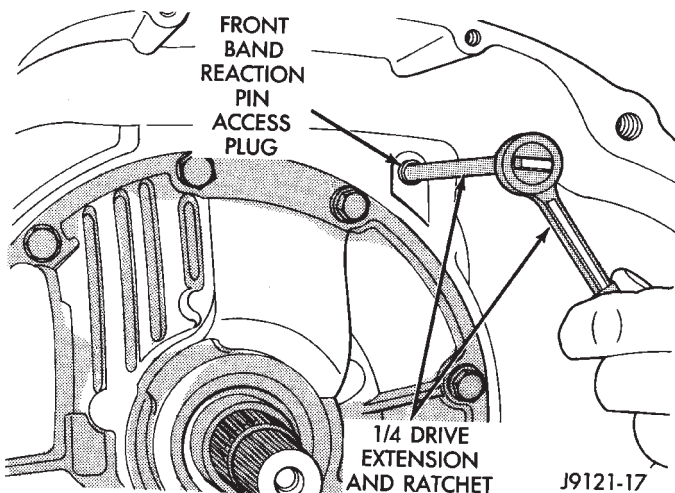

Fig. 17 Removing/Installing Front Band Lever Pin Access Plug—46RH
(18) Remove front band lever pin access plug (Fig. 17). Use square end of 1/4 in. drive extension to remove plug as shown.